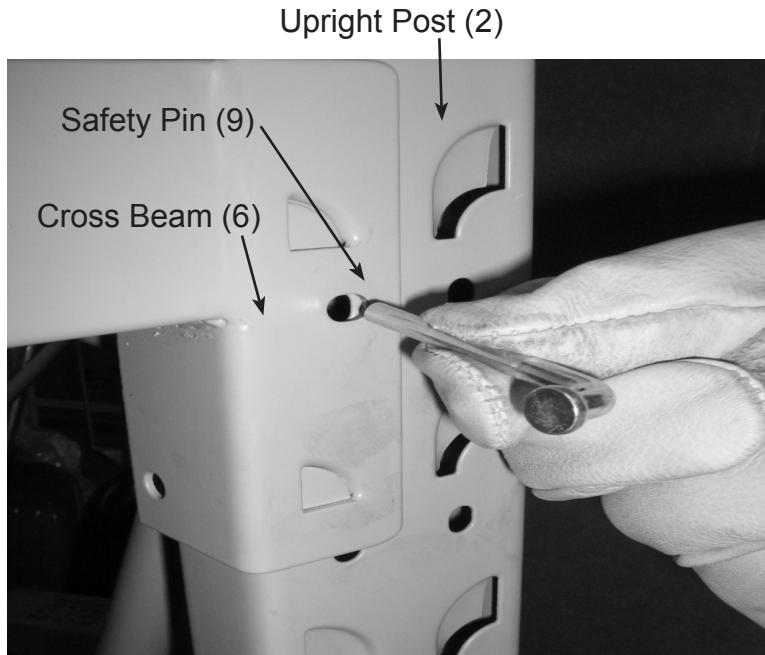

Figure 3
8. Insert the Safety Pins (9) into Holes located in, and lined up with, both the Upright Posts (2) and Cross Beams (6). This is an important step and will keep the Cross Beams from slipping up and coming loose (See **Figure 3**).
9. Lay the Steel Shelves (7) as needed into the Cross Beams (6). You can use up to 15 Steel Shelves (7), three per level, or leave some out in order to make room for taller items being stored.
10. Make sure all Steel Shelves are in correct and level positions. **Tighten all Nuts (5) and Bolts (1).**